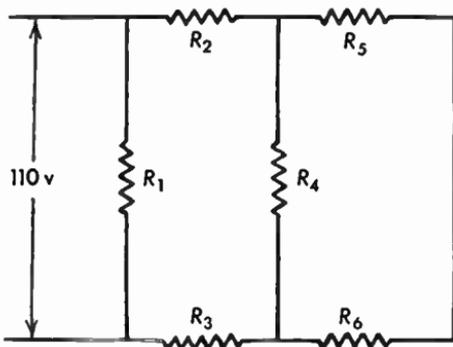

Fig. 2.19a Series-parallel circuit, conventional layout.
2.19 In Figure 2.19a, $R_1 = 80$ ohms, $R_2 = 3$ ohms, $R_3 = 8$ ohms, $R_4 = 6$ ohms, $R_5 = 12$ ohms, $R_6 = 5$ ohms. Find the voltage across R_5 .